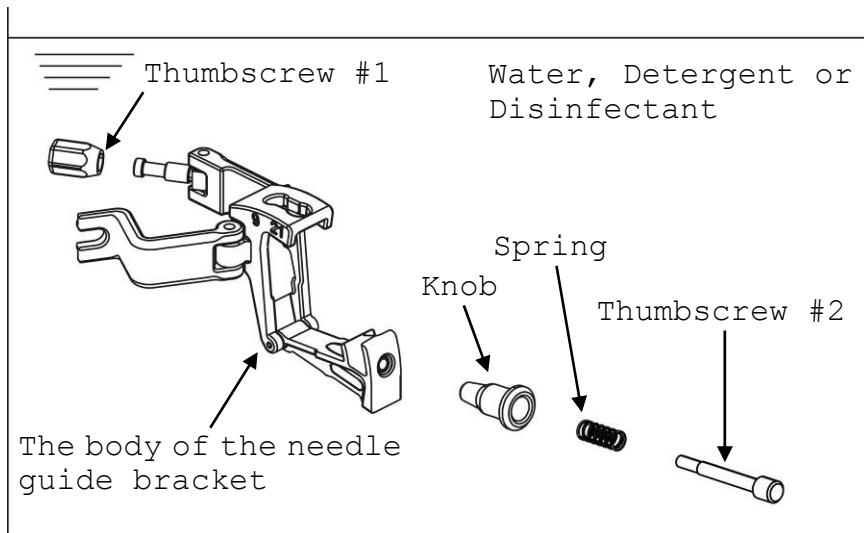

Fig. 22 Immersion of the Needle Guide Bracket
WARNINGS	<ul style="list-style-type: none"><li>- EZU-PA7C2 is delivered unsterile. Prior to the first use, reprocess it.</li><li>- The cavities and the spiral spring of the EZU-PA7C2 require particular attentions during all processes. The needle guide bracket must be manually pre-cleaned using ultrasound prior manual reprocessing as well as automated reprocessing and must be dismantled into single parts (shown in Figure 22).</li></ul>
- 2) Separate the needle guide bracket to thumbscrew #1, thumbscrew #2, spring, knob, and the body of the needle guide bracket (see Figure 22).
- 7) Rinse all parts of the needle guide bracket with running tap water for 1 minute. (alternatively: immerse them in a tray filled with deionized water/tap water (see Fig. 22) for 5 min.)
- 2) Immerse all parts of the needle guide bracket into the disinfectant (see Fig. 22). Rinse the cavity of the needle guide bracket with 50 ml disinfectant solution. Repeat this 4 times. Set a clock to insure the recommended contact time which is 5 minutes.
- 3) Rinse all parts of the needle guide bracket with deionized water for 1 minute. (alternatively: immerse them in a tray filled with deionized water (see Fig. 22) for 5 min.)